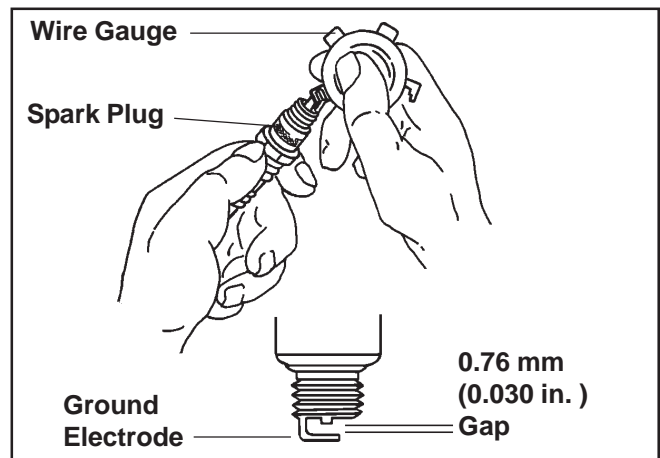

Figure 12. Servicing Spark Plug.
3. Check the gap using a wire feeler gauge. Adjust the gap by carefully bending the ground electrode. See Figure 12. Gap plugs to **0.76 mm (0.030 in.)**.